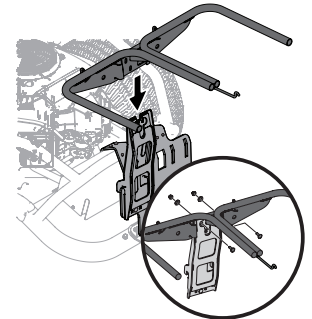

Figure 8
1. Install and secure the hanger assembly (683-04461C) onto the vertical support using two carriage bolts (710-0276), two cup washers (736-0242) and two flange lock nuts (712-04063) from hardware pack 689-01419. See Figure 8.